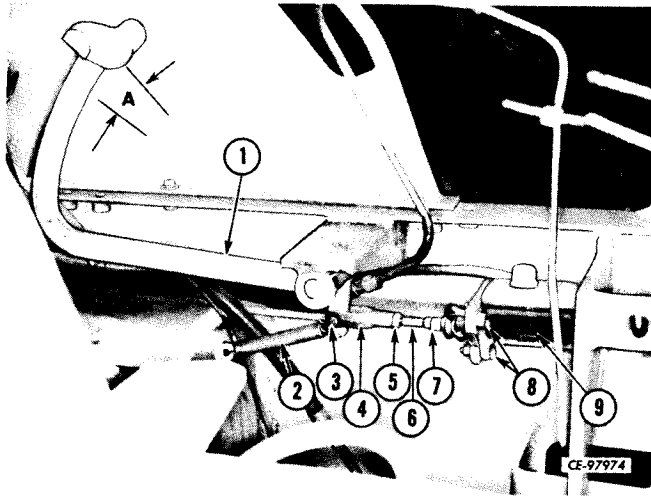

Figure 15-1
Check and correct fluid level before final adjustment. If any part of brake system has been serviced, system must be bled. Refer to "BLEED HYDRAULIC BRAKE CIRCUIT." Inability to maintain proper fluid level usually indicates a system leak. Adjustment of brake pedal travel must be done from under right hand floor panel (refer to Fig. 13-2) by shortening or lengthening rod (7, Fig. 15-1) between master cylinder and brake pedal arm (2).